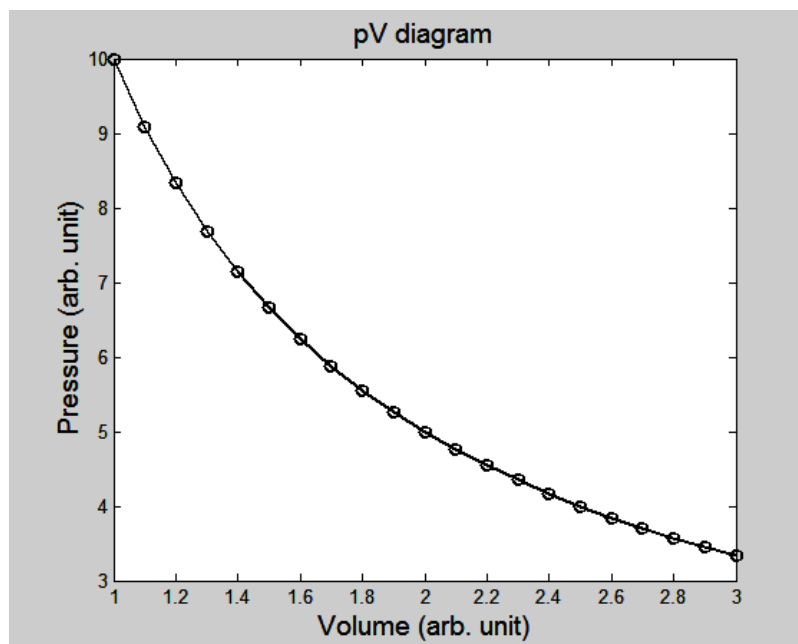

Figure 1. The pV diagram at constant temperature.
When temperature T is kept constant, the product of pressure p and volume V for a certain amount of gas is constant, which is called Boyle's law, discovered by British scientist Robert Boyle in 1662 by experiment. That is: $p_1V_1 = p_2V_2 = p_3V_3 = \dots$. The pV diagram is like figure 1.
- Continue this process to get data for volumes of 35 cc, 30 cc, 25 cc, and 20 cc. You should see a graph like Fig. 1 in this manual.